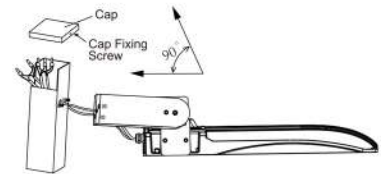

Figure 4-2
- 2: Put the installation bracket on the pole position, and using screws and nuts to fix the light tight, adjust to the desired light angle. (Figure 4-2)
- 3: Connect the wire of the lamp to the mains according to local wiring rules, make good protection on the connection, put the wire into the pole, cover the pole cover, tighten the side screws. (Figure 4-2)